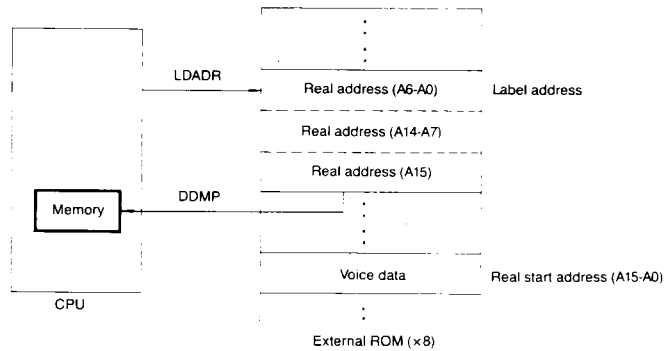

Fig. 8 Setting the label address
- The real start address must be stored in the format shown in Fig. 8 & 9. The LSB (b0) at the label address should be excluded in storing the start address. As the KS5901A has the addressing range of A0-A15, the last byte only contains one bit address data of A15 at the LSB (b0) and the other bits (b7 – b1) become dummy data. (see appendix)
- The control procedures are explained as follows. (refer Fig. 8 & 9)